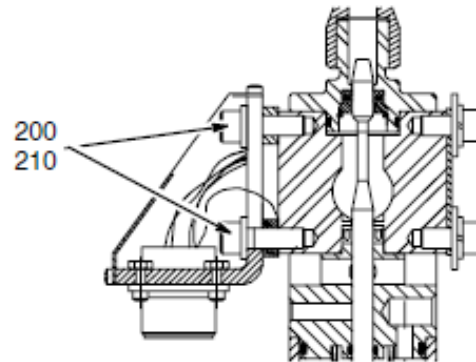

FIG. 14
- b. Remove the two socket head screws [FIG. 14, Item (200)], two washers (210). The heater cartridge (270) and sensor (320) will come out of the dispense valve body.
5. Reconnect the dispense valve to the receptacle (FIG. 14):